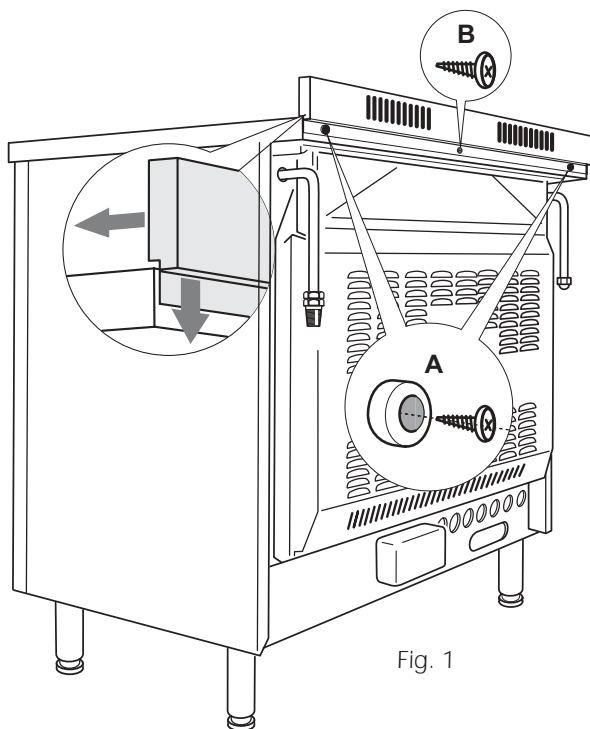

Fig. 1
- Assemble the backguard as shown in figure 1 and fix it by screwing the central screw "B" and the spacers "A".